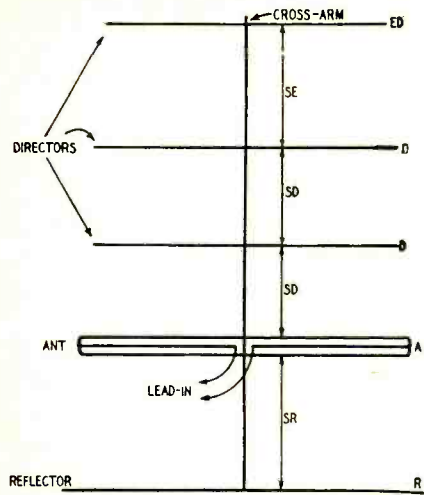

Fig. 1—A five-element Yagi antenna showing length of reflector and directors, and spacing between them.
THE antenna dimensions given in Table I can be used in constructing u.h.f. antennas such as the Yagi, the bowtie with reflector, and the bowtie with a flat screen or corner reflector. Since antennas have a slightly broader response at the ultra-high frequencies, and differences in element lengths are small, the table has been prepared in quarter-inch steps for the antenna elements. Thus the unnecessary fraction-of-an-inch measurements are minimized. In a number of instances a set of dimensions covers from two to five channels. As shown in Fig. 1, the lengths given in Table I apply to the total length of the antenna, director, reflectors, and spacings between.
For v.h.f., maximum gain is obtained when reflectors are spaced 0.15 wavelength from the antenna, while directors are spaced 0.1 wavelength. Since the same diameter elements are used for u.h.f. (one-quarter to one-half-inch stock), spacings given in Table I are somewhat greater to minimize capacitance effects between elements, and aid in keeping the antenna impedance up. An ordinary folded dipole will result in a greater impedance drop than the double-folded dipole shown in Fig. 1.
The bowtie antenna can pick up any u.h.f. channel if it is cut for the lowest channel to be received. Thus, a bowtie designed for channel 14 can pick up all the other channels if the signal strength of the stations is sufficient and the antenna is oriented correctly. The bowtie however does not have the gain of the Yagi. Dimensions given in Table I are used for the illustrations in Fig. 2. The bowtie can be mounted on an insulator, while the folded-dipole element of Fig. 1 is usually very rigid and an insulator is unnecessary. (Air is the best insulator, and does not accumulate the dirt, grit, and moisture which affect u.h.f. reception so much.)
We wish to construct a 6-element Yagi as shown in Fig. 1, with an additional director, to be used on channel 28. Table I indicates that the dimensions given for channels 27, 28, and 29 apply. Thus, the reflector is 10.5 inches, the radiator (A) is 10 inches, and the next three directors are 9.5 inches each. The last director is 8.5 inches. Spacing between the reflector and antenna is 4.75 inches, and between the first three directors, 4 inches. The spacing between the last two directors is 5.5 inches.